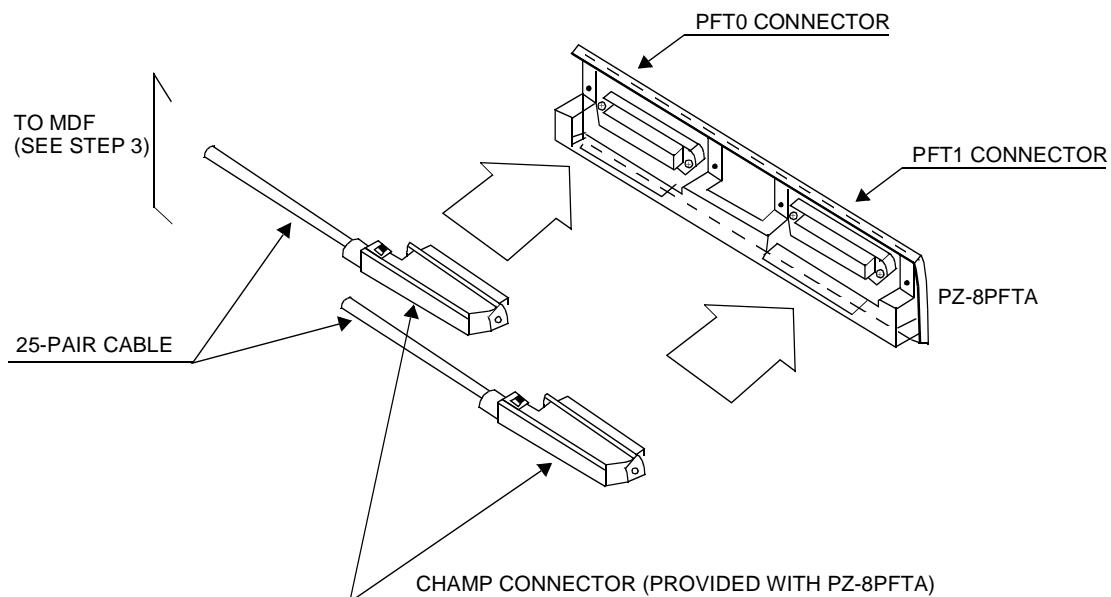

**Figure 006-33 PFT (PZ-8PFTA) Connection Outline**
- Figure 006-33 shows an outline of a PFT (PZ-8PFTA) connection.